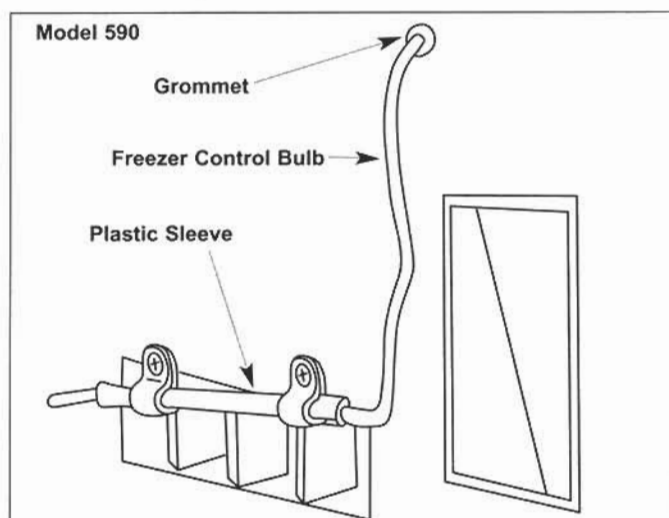

Figure 2-64. Freezer Bulb Routing
6. When reinstalling, route the control bulb through a grommet to the freezer section, then downward into a plastic sleeve. The end of the control bulb should extend approximately 1" from the plastic sleeve (Figure 2-64).